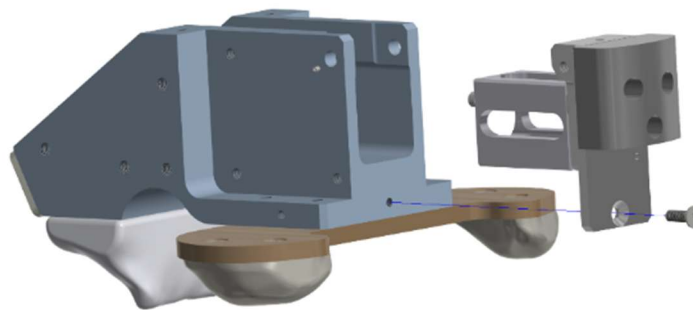

Figure 8-18. Remove one M4 X 0.7 X 12 LG. FHCS from the Pelvis Slice Stack Mounting Plate (474-4005)
- 8.2.14 Remove one M4 X 0.7 X 12 LG. FHCS from the Pelvis Slice Stack Mounting Plate (474-4005) (Figure 8-18).